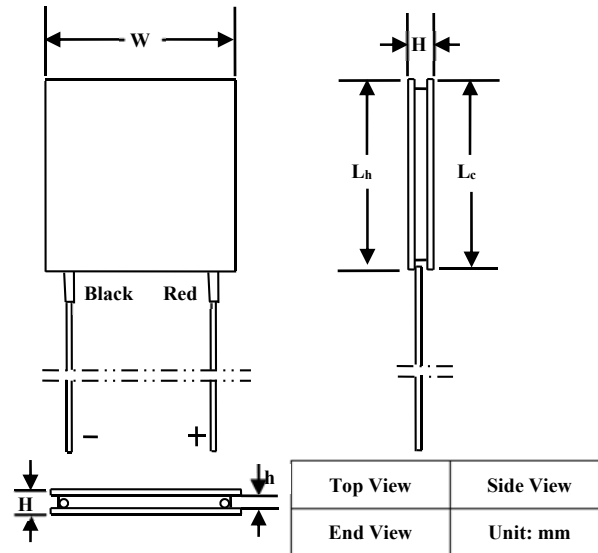

Figure 6. Mechanical Dimensions of ATE1-TC-31-3AS
The ATE1-TC-31-3AS TEC comes with 2 insulated lead wires. The positive wire is in red color, and the negative wire is of black. The mechanical dimensions are shown in Figure 6.
**Note:** As Figure 6 shows, when the red lead wire is on the right, then the top surface is the cold side of the TEC.